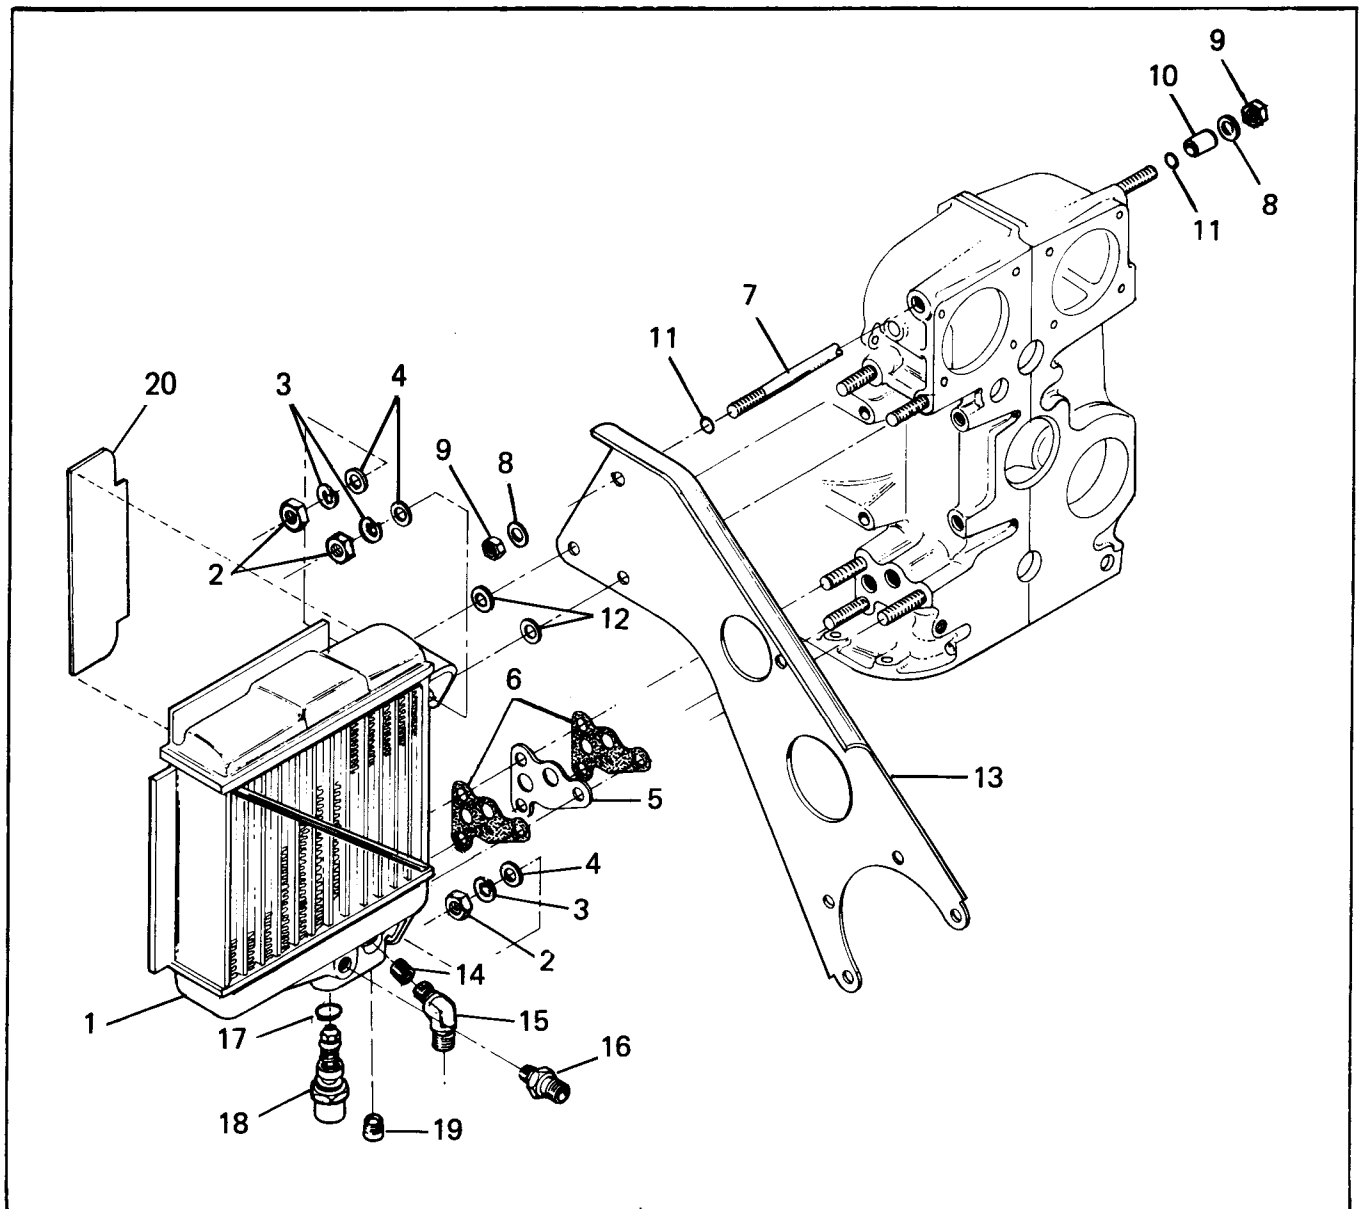

FIGURE 9-7 OIL COOLER ASSEMBLY
b. Remove four nuts (2) eight washers (3) and four bolts (4) and separate compressor (not shown) from bracket.
c. Remove attaching parts (8,9 figure 9-7) and bolt (5) and washer (6) and separate bracket (7) from crankcase.
d. Remove special bolt (11), rectangular nut (8) lock nut (10) and washer (9). Remove bolt (12), washers (13,14) and nut (15) and pull block assembly from bracket. Remove bolt (16), retaining ring (17) and ball bearing (18) from sheave 19. Remove spacer (20).
e. Sheave (22) is retained to starter shaft with pin (23) and may already have been removed.
b. Install bracket on crankcase and secure with two bolts and washers (5,6) and one nut, washer, and lockwasher (10,8,9 figure 9-7) Torque bolts to 220-260 inch lbs. and torque nut to 275 to 325 inch lbs. (Nuts must be torqued on both ends of thru bolt.
d. Install belt (1). Adjust belt tension by turning adjusting bolt so belt tension equals 65-75 lbs.